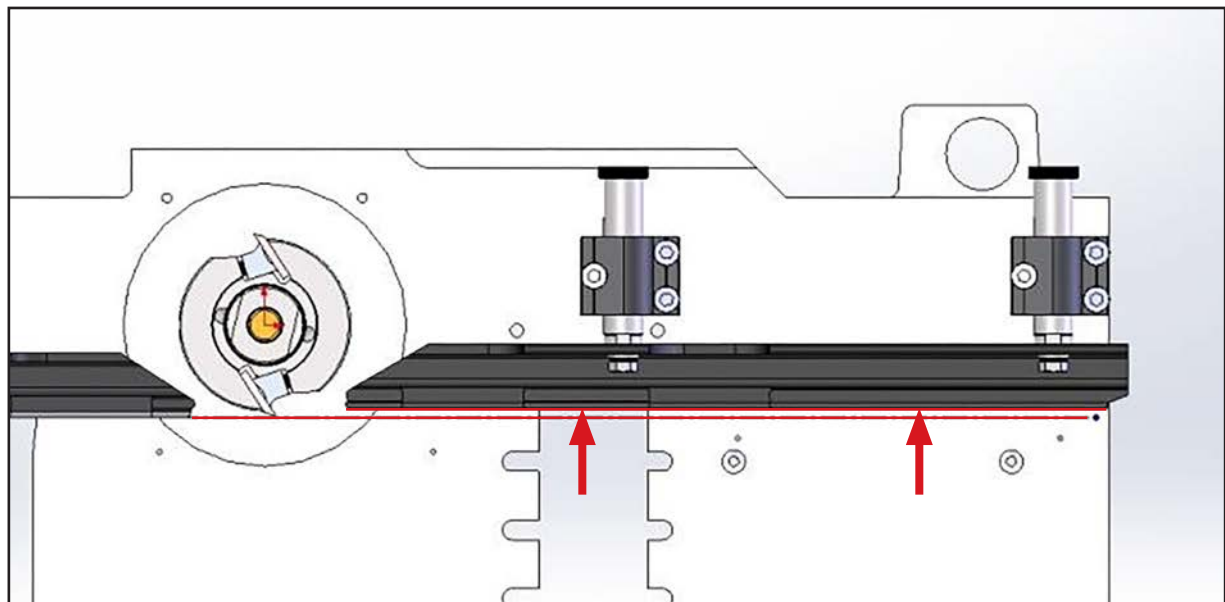

**Figure 47.** Infeed fence adjusted for desired depth of cut (top view shown).
4. Adjust the infeed fence to the desired depth of cut for the right cutterhead (see **Figure 47**).